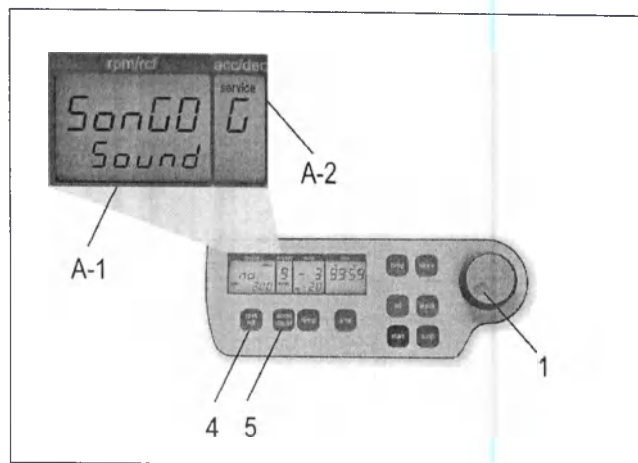

Figure 7
Proceed as illustrated, under point 1.8.1, to enter this program mode, press the key, "accel/decel" (5). In the display, "accel/decel" (A-2) flashes the word, "service". Select the letter, "G" with the adjustable knob (1). As a result, appearing in the display, "rpm/rcf" (A-1), the word "SonGo/Sound". After pressing the key "rpm/rcf" (4), select a song with the adjusting knob (1), (see Figure 7).